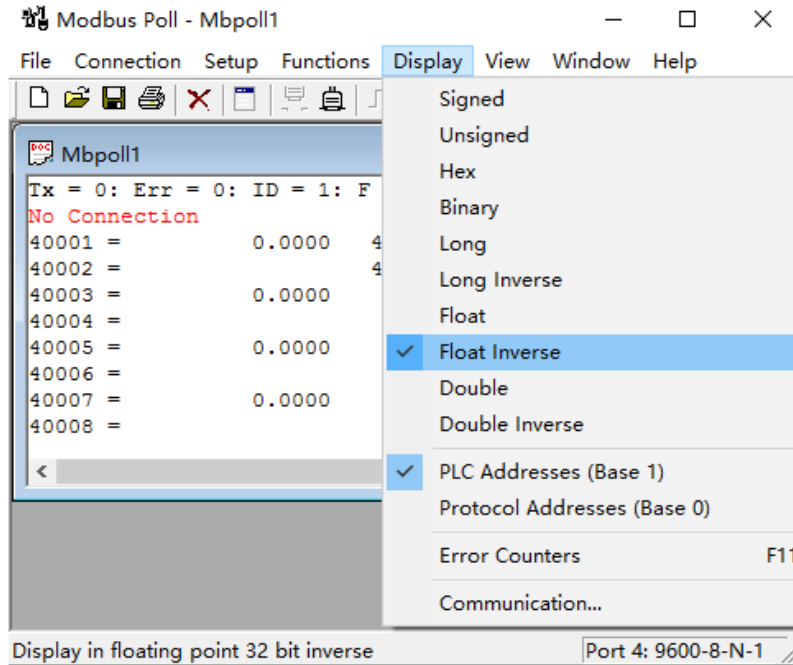

Figure 17 Display Setting
(5) Click the "OK" button. Then click the "Display" item in the menu, and select "Float" and "PLC Addresses (Base 1)" in the drop-down box, as shown in Figure 17. Figure 17